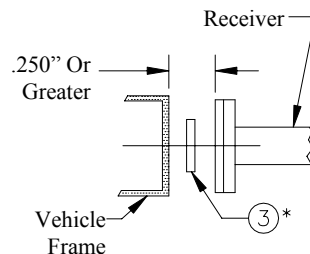

FIGURE 2
- * If gap between receiver side bracket and vehicle frame is .250" or greater, then install 1-1/2" x 3" x 1/4" round hole spacers as necessary. See Figure 2.